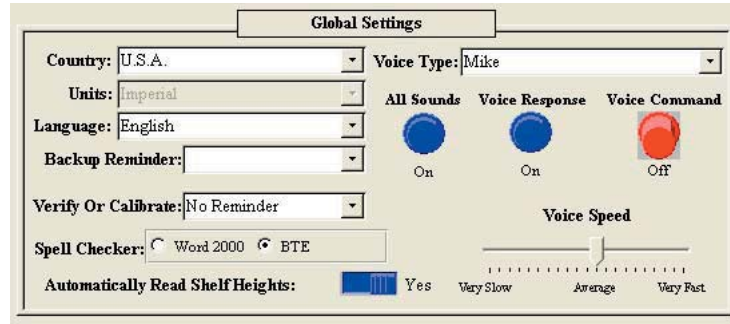

Figure 2-11. Global Settings
3. GLOBAL SETTINGS (FIGURE 2-11)